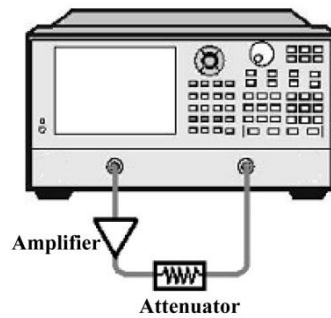

Fig. 8.16 Connection in Group Delay Measurement
- 2) Connect the tested device, as shown in Fig. 8.16.